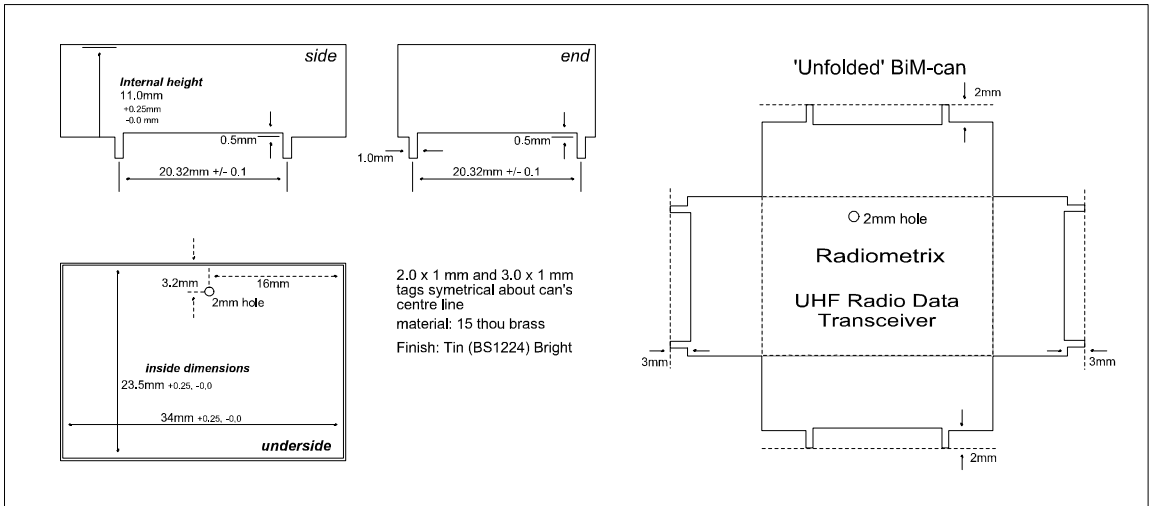

figure 11: BiM-can layout
- The BiM-can (fig. 11) is available and may be used for shielding to achieve an optimal radio performance